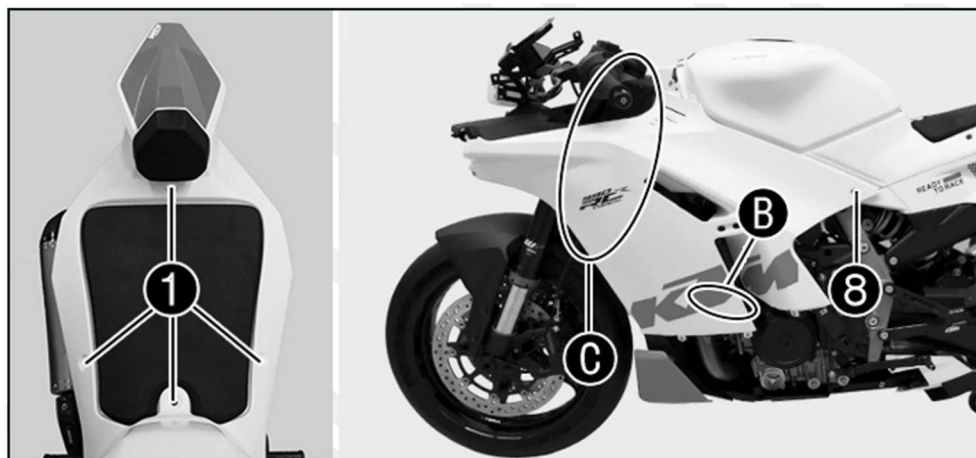

Fig. 1 – Remove the 990 RC R Track seat fairing
- Remove screws (1) of the seat fairing (see Fig.1).
- Remove screws (8) of the side spoiler (left/right) (see Fig.1).